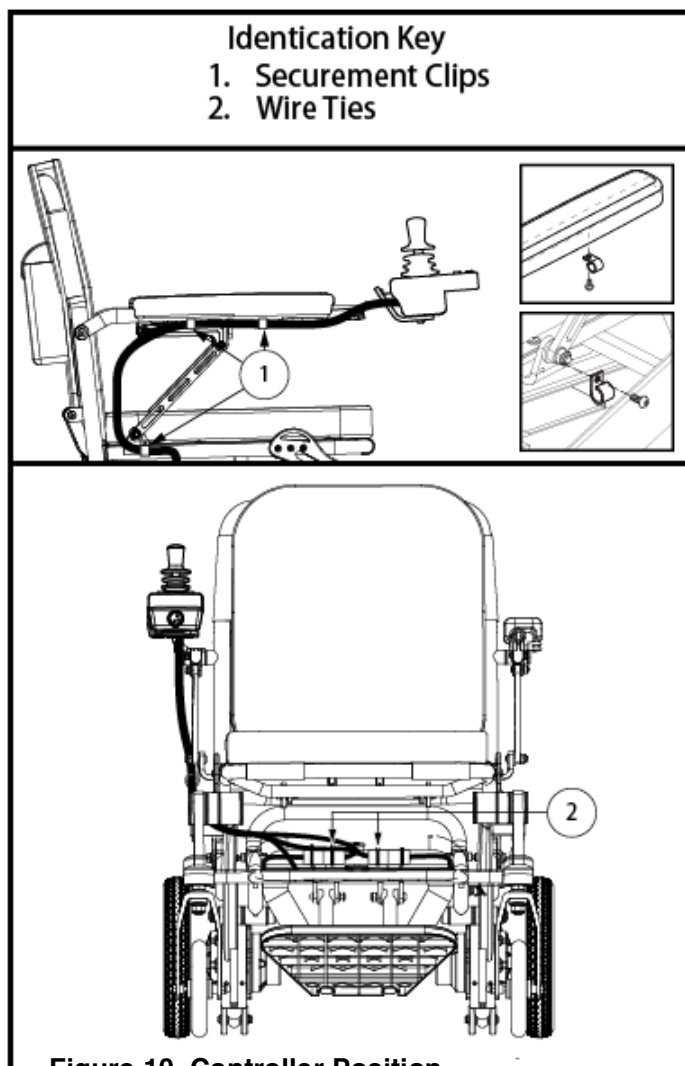

Figure 10. Controller Position
4. Insert the controller into the armrest and tighten the thumbscrew, then latch the quick release handle. **See figure 6.** Hook the controller harness to the securement clips. **See figure 10.**
3. Unhook the controller harness from the securement clips. Uninstall the securement clips and reinstall them on the other side. **See figure 10.**
to the securement clips. **See figure 10.** Ensure that the armrest can freely be raised and lowered without any tension on the harness so the securement clips do not become disconnected.